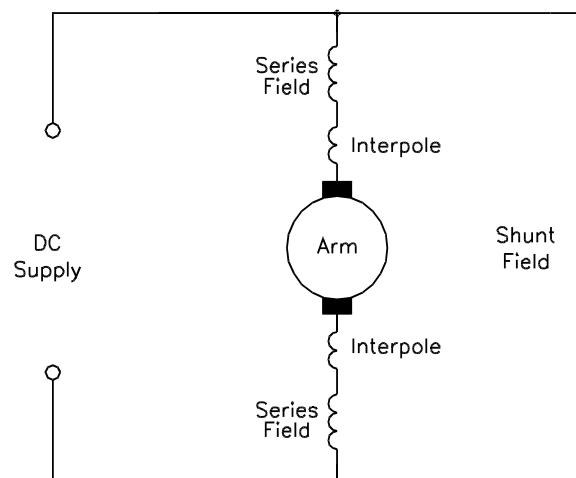

Figure 61
52. DC compound machines can be connected long shunt or short shunt as shown in Figure 61.